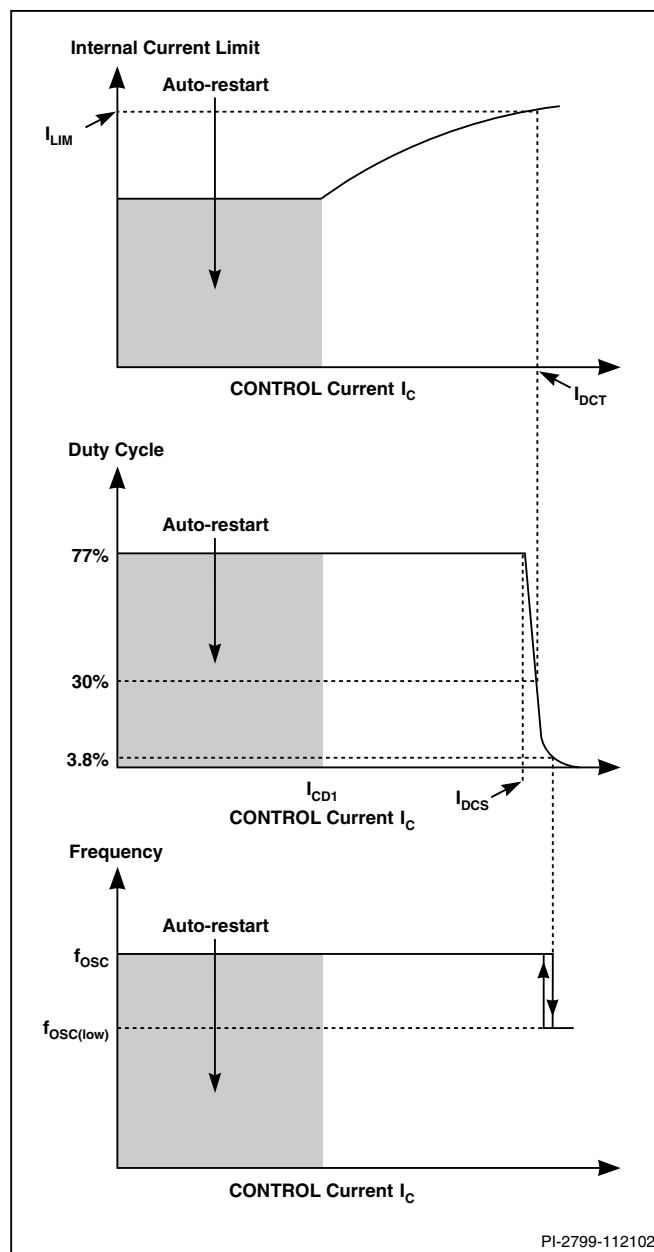
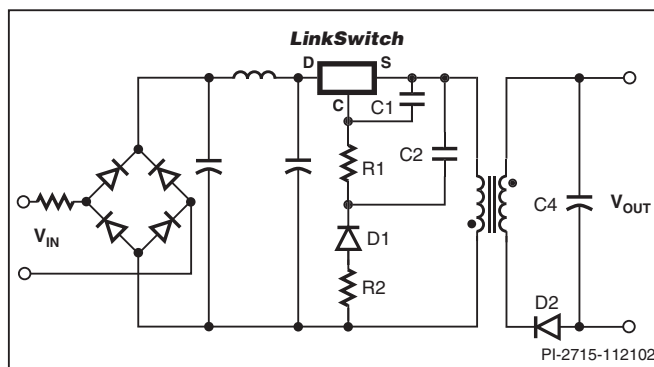
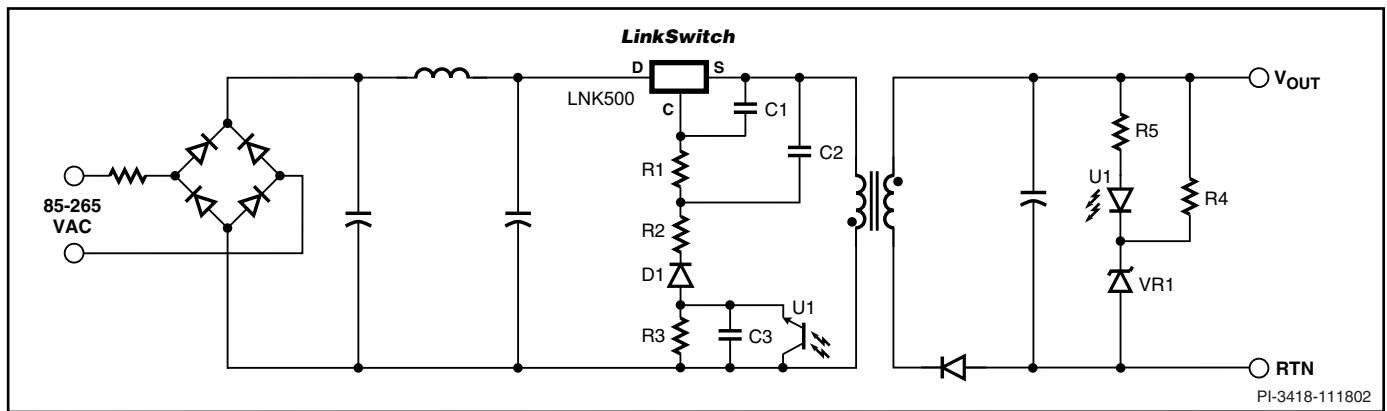

Figure 4. CONTROL Characteristics.
Figure 5. Power Supply Outline Schematic.
Figure 6. Power Supply Outline Schematic with Optocoupler Feedback.
The duty cycle, current limit and operating frequency relationships with CONTROL pin current are shown in Figure 4. Figure 5 shows a typical power supply outline schematic which is used below to describe the *LinkSwitch* operation.
During power up, as V_{IN} is first applied (Figure 5), the CONTROL pin capacitor C1 is charged through a switched high voltage current source connected internally between the DRAIN and CONTROL pins (see Figure 2). When the CONTROL pin voltage reaches approximately 5.6 V relative to the SOURCE pin, the high voltage current source is turned off, the internal control circuitry is activated and the high voltage internal MOSFET starts to switch. At this point, the charge stored on C1 is used to supply the internal consumption of the chip.
As the output voltage, and therefore the reflected voltage across the primary transformer winding ramp up, the feedback CONTROL current I_C increases. As shown in Figure 4, the internal current limit increases with I_C and reaches I_{LIM} when I_C is equal to I_{DCT} . The internal current limit vs. I_C characteristic is designed to provide an approximately constant power supply output current as the power supply output voltage rises.
When I_C exceeds I_{DCS} , typically 2 mA (Figure 4), the maximum duty cycle is reduced. At a value of I_C that depends on power supply input voltage, the duty cycle control limits *LinkSwitch* peak current below the internal current limit value. At this point the power supply transitions from CC to CV operation. With minimum input voltage in a typical universal input design, this transition occurs at approximately 30% duty cycle. R1 (Figure 5) is therefore initially selected to conduct a value of I_C approximately equal to I_{DCT} when V_{OUT} is at the desired value at the minimum power supply input voltage. The final choice of R1 is made when the rest of the circuit design is complete. When the duty cycle drops below approximately 4%, the frequency is reduced, which reduces energy consumption under light load conditions.
Figure 6 shows a typical power supply outline schematic using *LinkSwitch* with optocoupler feedback to improve output voltage regulation. On the primary side, the schematic differs from
Figure 5 by the addition of R3, C3 and optocoupler U1. R3 forms a potential divider with R1 to limit the U1 collector emitter voltage.
The feedback configuration in Figure 6 is simply a resistive divider made up of R1 and R3 with D1, R2, C1 and C2 rectifying, filtering and smoothing the primary winding voltage signal. The optocoupler therefore effectively adjusts the resistor divider ratio to control the DC voltage across R1 and therefore, the feedback current received by the *LinkSwitch* CONTROL pin.
When the power supply operates in the constant current (CC) region, for example when charging a battery, the output voltage is below the voltage feedback threshold defined by U1 and VR1 and the optocoupler is fully off. In this region, the circuit behaves exactly as previously described with reference to Figure 5 where the reflected voltage increases with increasing output voltage and the *LinkSwitch* internal current limit is adjusted to provide an approximate CC output characteristic. Note that for similar output characteristics in the CC region, the value of R1 in Figure 5 will be equal to the value of R1+R3 in Figure 6.
When the output reaches the voltage feedback threshold set by U1 and VR1, the optocoupler turns on. Any further increase in the power supply output voltage results in the U1 transistor current increasing, which increases the percentage of the reflected voltage appearing across R1. The resulting increase in the *LinkSwitch* CONTROL current reduces the duty cycle according to Figure 4 and therefore, maintains the output voltage regulation.
transistor voltage and dissipation ratings and should be fully tested before finalizing a design. The values of C2 and C3 are less important other than to make sure they are large enough to have very little influence on the impedance of the voltage division circuit set up by R1, R3 and U1 at the switching frequency. Normally, the values of C2 and C3 in Figure 6 are chosen equal to the value of C2 in Figure 5, though the voltage rating may be reduced depending on the relative values of R1 and R2 discussed above. See Applications section for typical values of components.
The output voltage load variation can be improved across the whole load range by adding an optocoupler and secondary reference (Figure 6). The secondary reference is designed to only provide feedback above the normal peak power point voltage to maintain the correct constant current characteristic.
The schematic shown in Figure 5 outlines the key components needed for a *LinkSwitch* supply.
Since the SOURCE pins in a *LinkSwitch* supply are switching nodes, the copper area connected to SOURCE together with C1, C2 and R1 (Figure 5) should be minimized, within the thermal constraints of the design, to reduce EMI coupling.